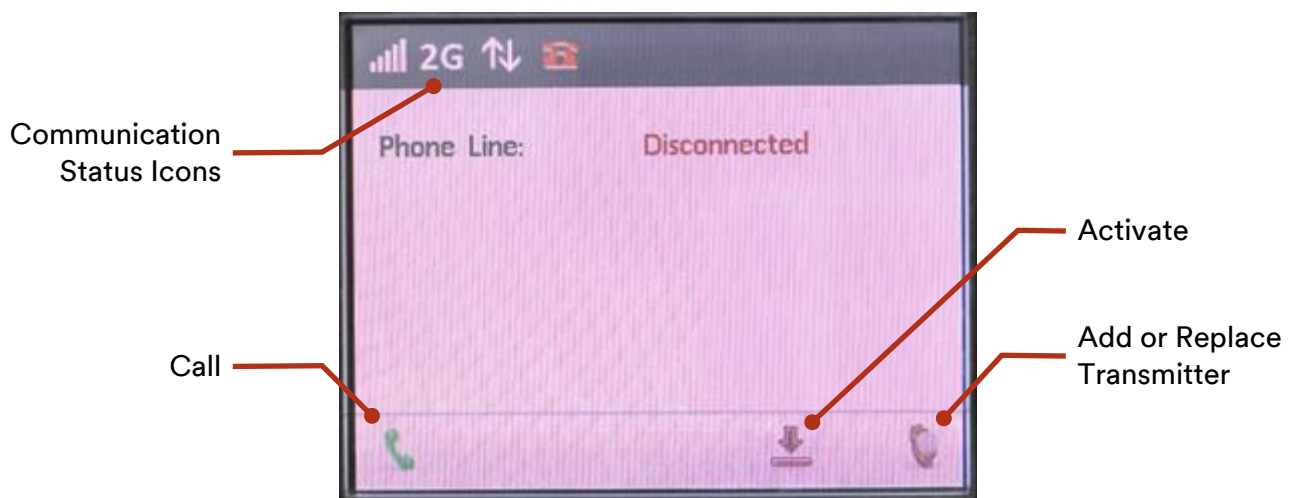

Figure 5: Post-Registration Status Icons on Initial Screen
1. From the initial screen (see Figure 5), press the Transmitter button for about 10 seconds until a list of transmitter serial numbers is displayed.